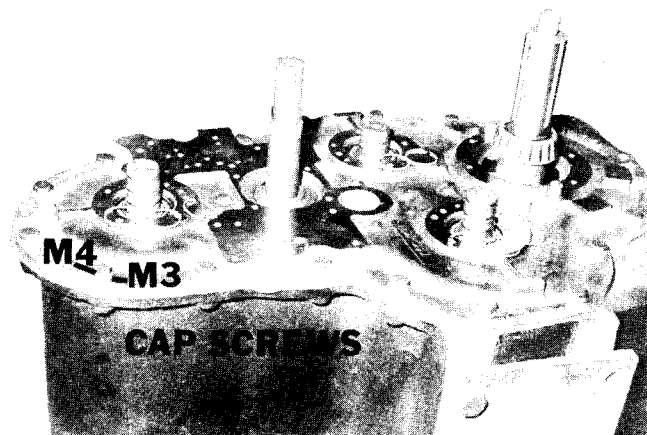

Figure 6
14. Remove 19 main cover capscrews (M-4) and lockwashers (M-3) (Figure 6).